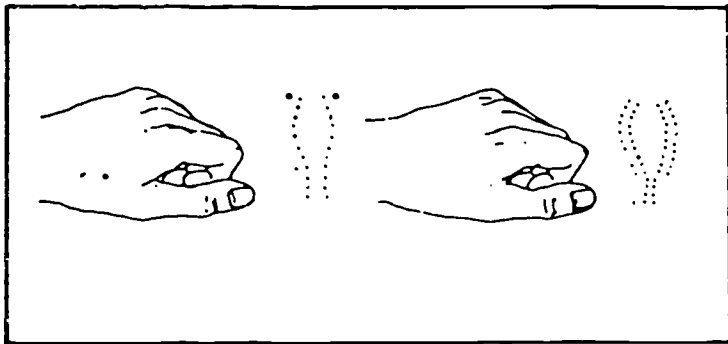

Figure 2-9. Snakebites.
- a. Presence of one or more fang puncture wounds (fig. 2-9).
(2) *Identify the snake, if possible.* Its identity is necessary before specific antivenin treatment can be given. If you are the victim, don't spend more than a few minutes at this activity and don't move more than a few feet away. Remember, DO NOT stimulate blood flow unnecessarily. If you are able to kill the snake immediately, check for fangs in the snake. Also, check for fang marks at the site of the bite (fig. 2-9). If the snake is poisonous, swelling occurs rapidly. The skin becomes a dark purple and ordinarily two puncture points, made by the fangs, are seen clearly, as shown on the left in figure 2-9. Sometimes only one puncture mark appears. Scratches accompany the puncture wounds. Nonpoisonous snakebites, shown on the right in figure 2-9 appear only as scratches.